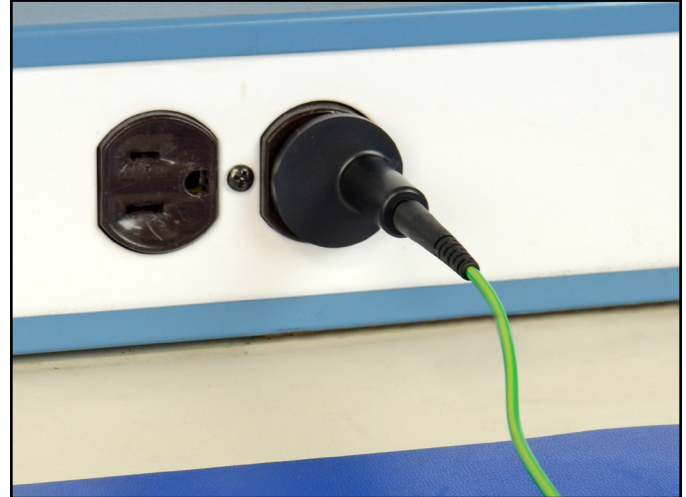

Figure 3. Using the Ground Plug Adapter to ground the Wave Distortion Monitor Verification Tester
1. Connect the Wave Distortion Monitor Verification Tester's green ground lead to equipment ground. This may be done using the included Ground Plug Adapter or alligator clip. See Figure 3.